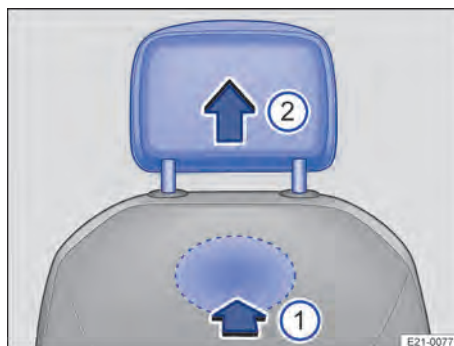

Fig. 77 On the back of the front seat backrest: Removing the head restraint
2. To unlock the head restraint, feel for the recess in the marked area on the rear of the backrest and use a finger to press it in the direction of the arrow → Fig. 77 ①.
3. For seats with a stowage area in the backrest, press the recess by pushing a long object through the hole in the upper part under the rubber strap on the stowage area → ①.
4. Pull the head restraint out fully in the direction of the arrow → Fig. 77 ②.